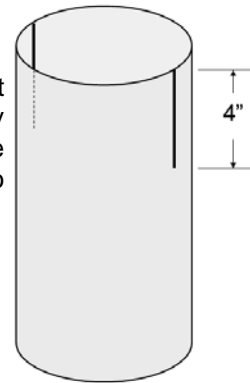

Figure 4. Two, 4" long slits sawn into one end of the PVC pipe.
- 2) Using a hand saw or a hand-held electric jigsaw, cut two slits in the top end of the PVC tube. Each slit should be about 4 inches long. Space the slits on opposite sides of the pipe. The slits must be wide enough for ants to fit through. The slits accomplish two things: they serve as the entry/exit for the ants, and they prevent the top cap from becoming stuck on the PVC tube (Fig. 4).